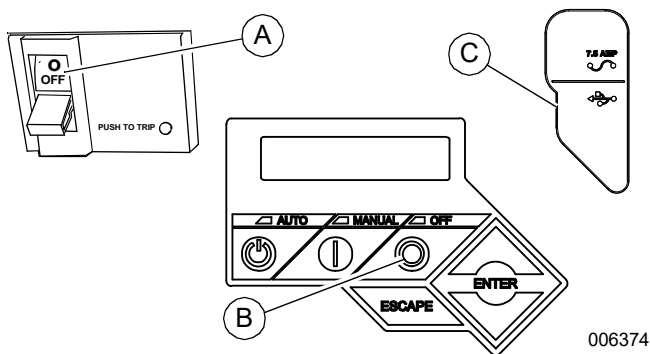

Figure 5-5. Generator Control Panel
2. See Figure 5-5. Set generator MLCB (generator disconnect) to OFF (OPEN) (A).